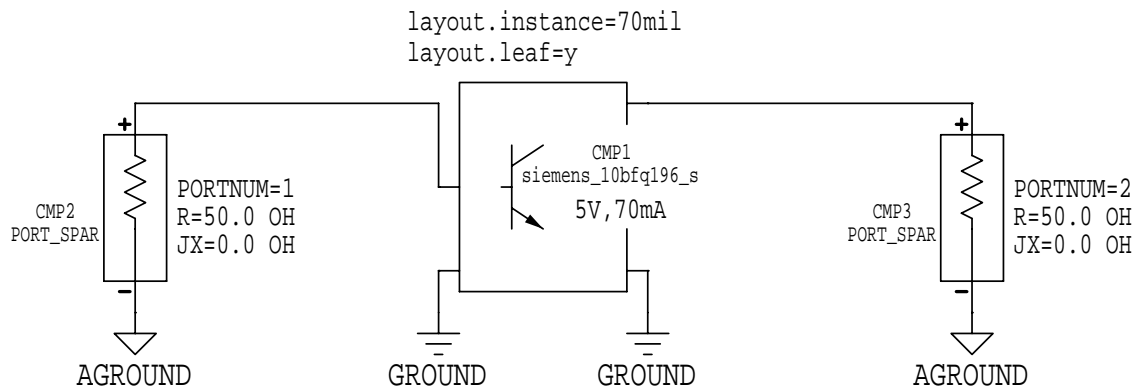

Figure 3: BJT characterization test circuit
- In the Lab3 workbench, create a new circuit page called BJT_char. Figure 3 shows what your completed circuit should look like.
- Insert *EQUATION* statements on the circuit page and edit them to look like Figure 3.